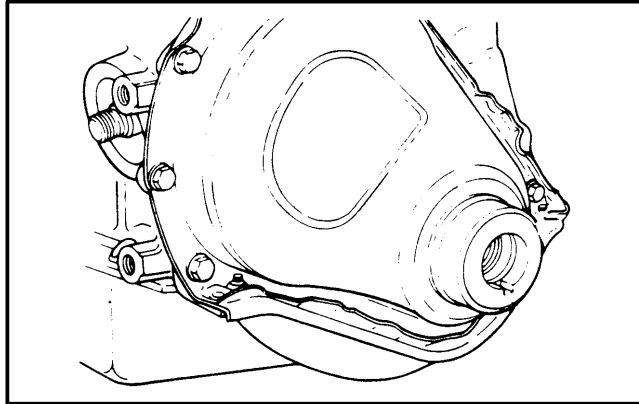

FIGURE 14. CENTERING TOOL, TIMING GEAR COVER
4. Install a centering tool in the oil seal. See FIGURE 14. (A special tool, GM Part No. J-34995 is available for GM 4-153, 4-181 and 3.0L and GM Part No. 23042 is available for GM 6-250.) The oil seal must be aligned so that it is evenly in position around the hub. An oil seal